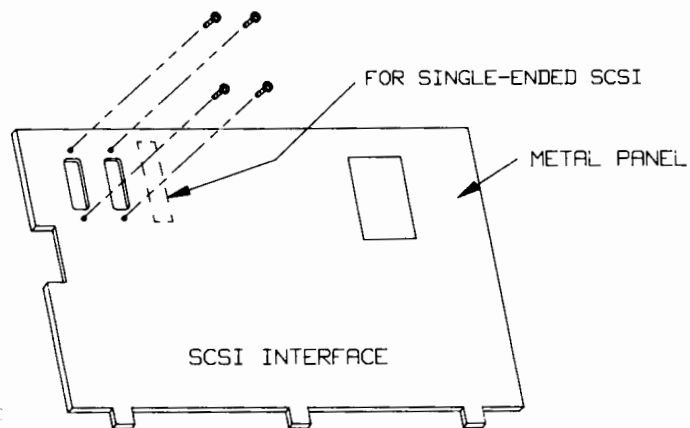

Figure 6-1. Screws on the SCSI Connectors.
- b) If SCSI, use a #1 PozidrivTM to remove the four screws holding the two connectors. See Figure 6-1, next page.